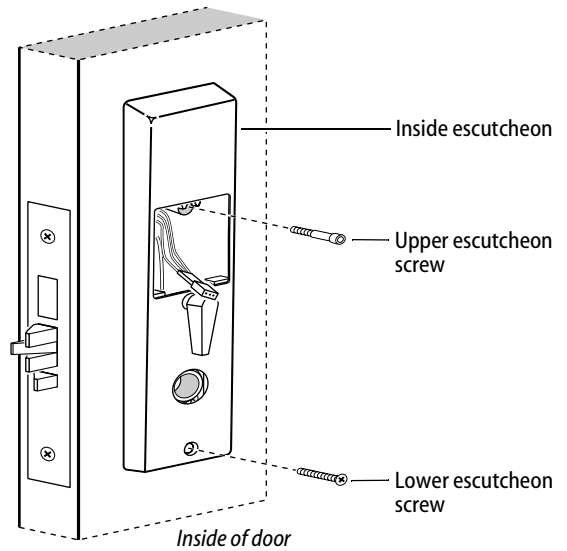

Figure 5a Removing the inside escutcheon
- 1 From the inside of the door, remove the upper and lower escutcheon screws, as shown in Figure 5a.